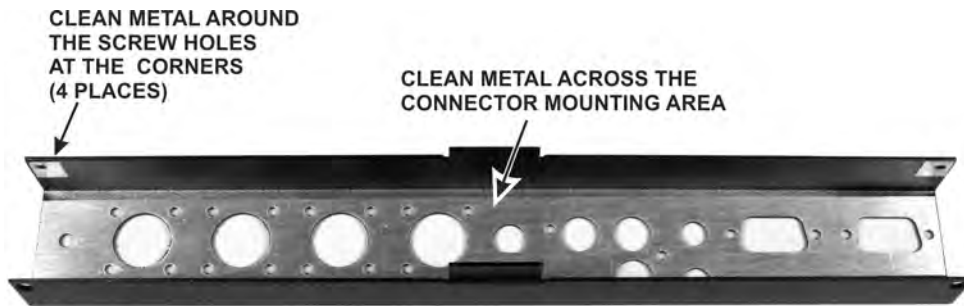

Figure 18. Preparing the Rear Panel.
- Inspect the inside surface of the rear panel and remove any tape or residue to provide a clean metal surface where shown in Figure 18.